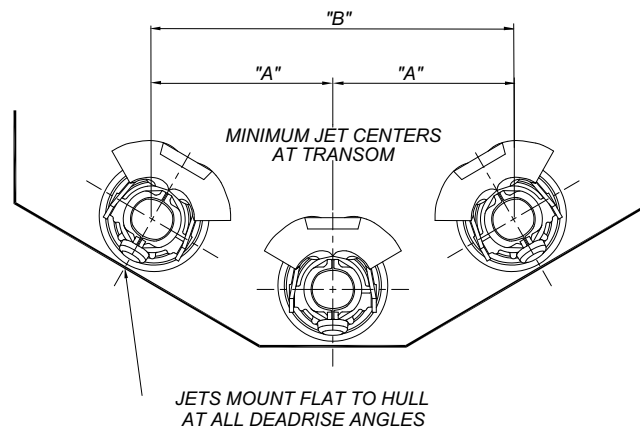

Figure 3: Installation for Multiple Jets
5. Minimum distances between jets for multiple installations. **Refer to Figure 3: Installation for Multiple Jets.**